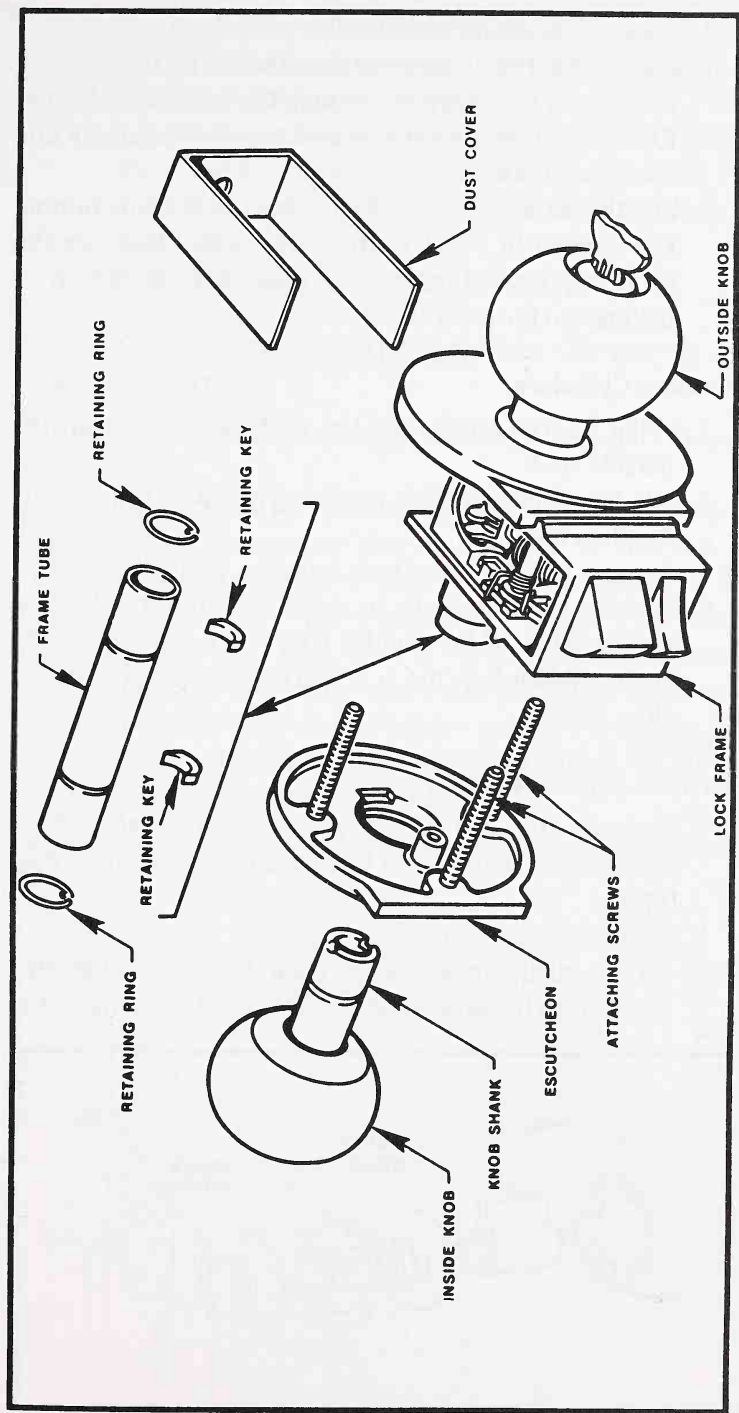

Fig. 18-20.
1. Remove the attaching screws (Fig. 18-20).
1. Remove the key from the lock (lock should be unlocked). Remove the three attaching screws (Fig. 18-20).